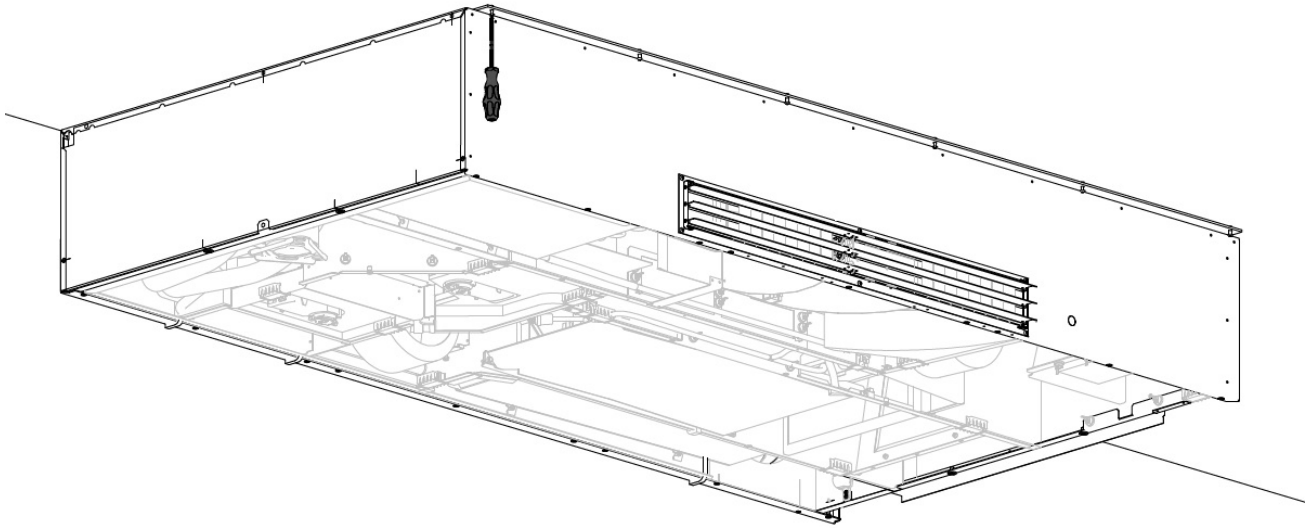

Figure 16: Mount the front bracket to the ceiling
6. Mount the front bracket onto the ceiling, see Figure 16. Use *all* the attachment points.